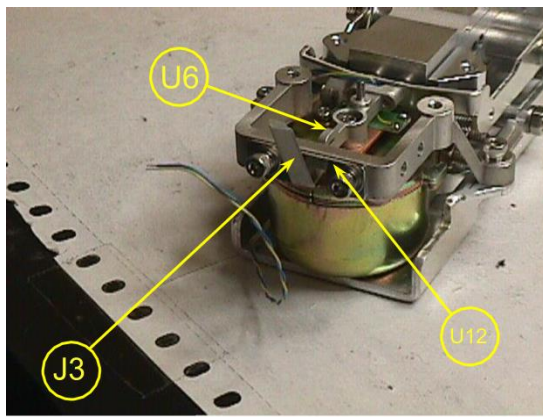

Fig.18
- Insert the Assy,Lever (U4) from the top of the unit and fix it loosely using the two M4X55 hexagonal socket-head bolts (20).
- Insert the Gap setting shim (J3) between the Assy,Lever (U4) and the Lever stopper (U12) to set the position of the Assy,Lever (U4), and fix the Assy,Lever (U4) using the two M4x55 hexagonal socket-head bolts (20) (Fig.18).